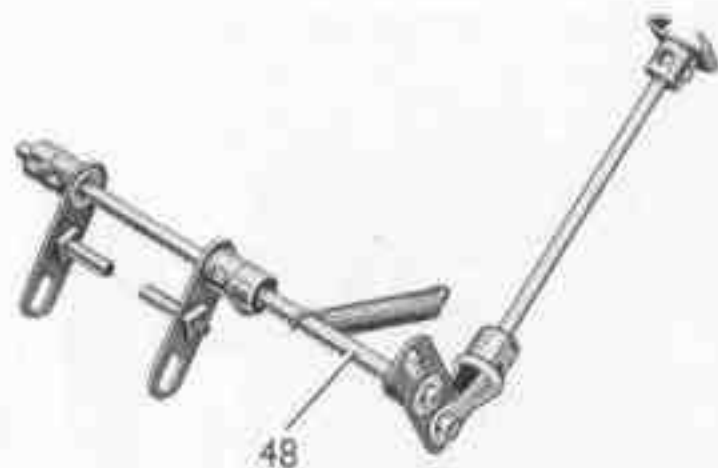

FIG. 8 The clutch pedal and release lever unit removed from the chassis
The clutch pedal is a Slide Piece on a 4" Rod that passes through an Obtuse Angle Bracket bolted to one of the  $5\frac{1}{2}" \times 3\frac{1}{2}"$  Flat Plates of the chassis. The lower end of the Rod carries an End Bearing, and this pivots on a  $\frac{1}{2}"$  Bolt passed through a Double Arm Crank on a 5" Rod (48) (Fig. 8). This Rod is held by Collars in Angle Brackets bolted to the Girders (18) of the engine unit, and it carries two Cranks fitted with Threaded Pins that engage the groove in the Socket Coupling (26).